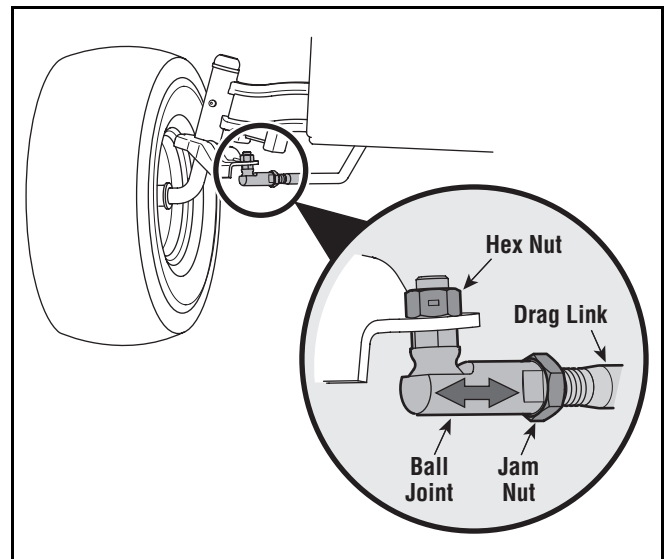

Figure 13
- Loosen the jam nut found on the drag link at the rear of the ball joint. See Figure 13.